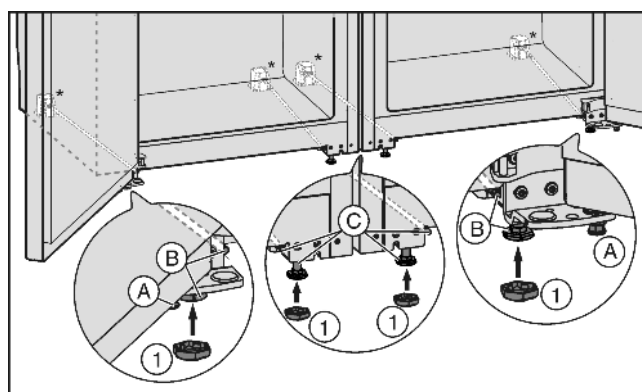

Fig. 4
- If necessary, completely retract the height-adjustable feet Fig. 4 (A) at the front of both appliances so that they are not touching the floor.
- Place the caps Fig. 4 (1) onto the four front height-adjustable feet.
- Retract the centre height-adjustable feet Fig. 4 (C) so they are not in contact with the floor.
- Level the combination using the outer height-adjustable feet Fig. 4 (B).
- Lower the centre height-adjustable feet Fig. 4 (C) until they touch the floor.
- Then support the door: Extend the height-adjustable feet Fig. 4 (A) at the turn hinge until they are resting on the floor, then turn them further by 90°.